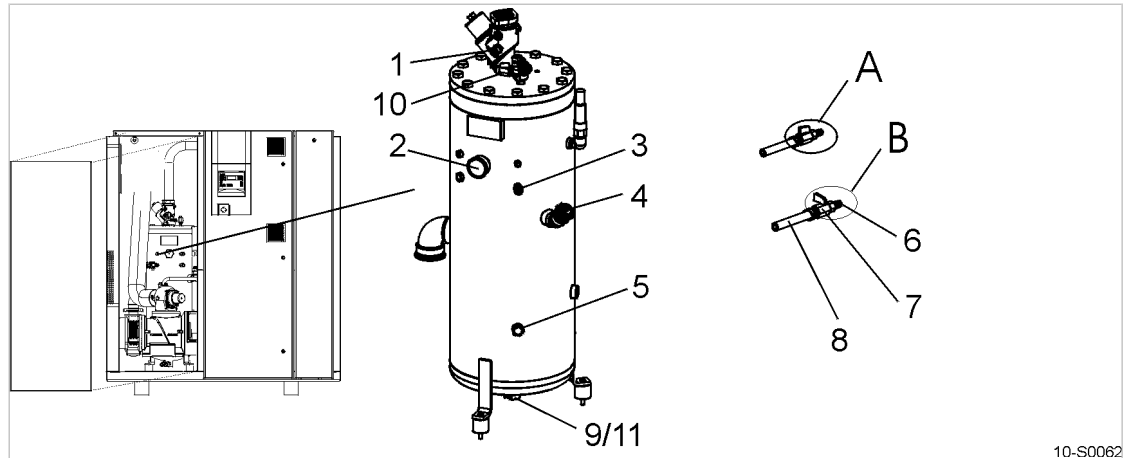

Fig. 32 Changing the cooling oil, oil separator tank
2. With the shut-off valve closed, insert the male hose fitting ⑥ (Fig. 32) into the hose coupling ②.
4. Open shut-off valves ③ and ⑦ (Fig. 32)
5. Remove the coupling safety screen ④ and turn the coupling ⑤ by hand at least five revolutions until all the oil has run out.
7. Close the shut-off valve ③ and unplug the male hose fitting.
- ① Hose coupling
- ② Thermostatic valve
- ③ Shut-off valve
2. Insert the male hose fitting ⑥ (Fig. 32) in the hose coupling ①.
4. Open the shut-off valves ③ and ⑦ (Fig. 32) and allow the oil to drain completely.
5. Close the shut-off valve ③ and unplug the male hose fitting.
1. Open the filler plug ④ (Fig. 32) slowly.